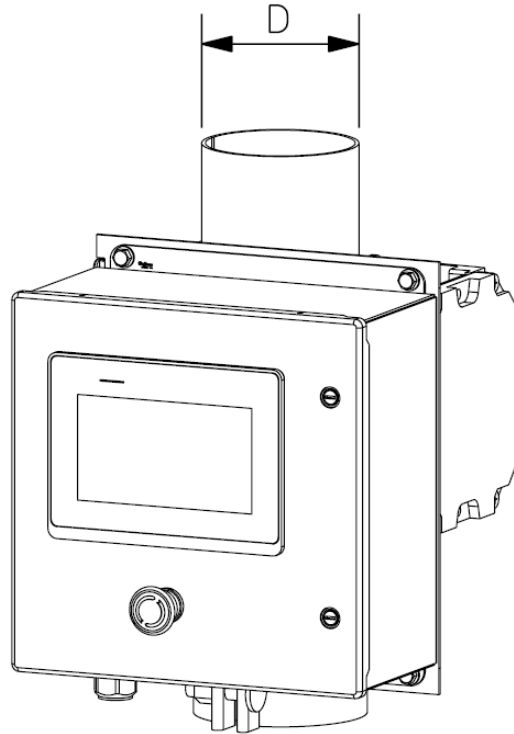

Figure 3-1: Model identification reference dimension
Walinga Smart-Flo systems are available in a variety of sizes to accommodate the full range of Walinga's pneumatic conveying systems. To identify the size of your Smart-Flo system, measure the diameter (D) of the air velocity sensor tube as seen in **Figure 3-1**.